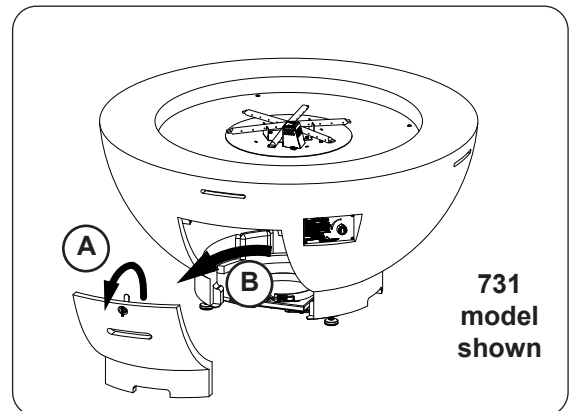

Fig. 26-2 Remove storage door (if applicable)
2. If equipped remove the storage door by first turning the door handle counter-clockwise, then carefully pulling the door outward (see Fig. 26-2). Store in a safe location.